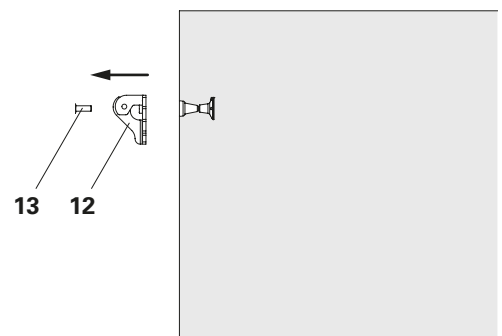

Fig. C3.08
- Remove the ties and seal the tie holes, e.g. with concrete cones, see Section "A5 Anchoring" on page 38. (Fig. C3.08)